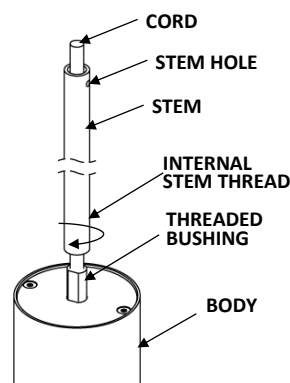

Fig. 2
2. INSTALL STEM TO BODY. Fig. 2